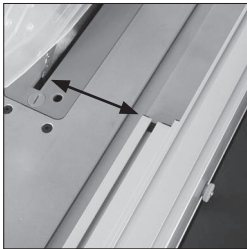

Fig. 43
- We recommend you adjust and align the back of the Rip Fence faceplate level with the front of the saw blade (**Fig. 43**).